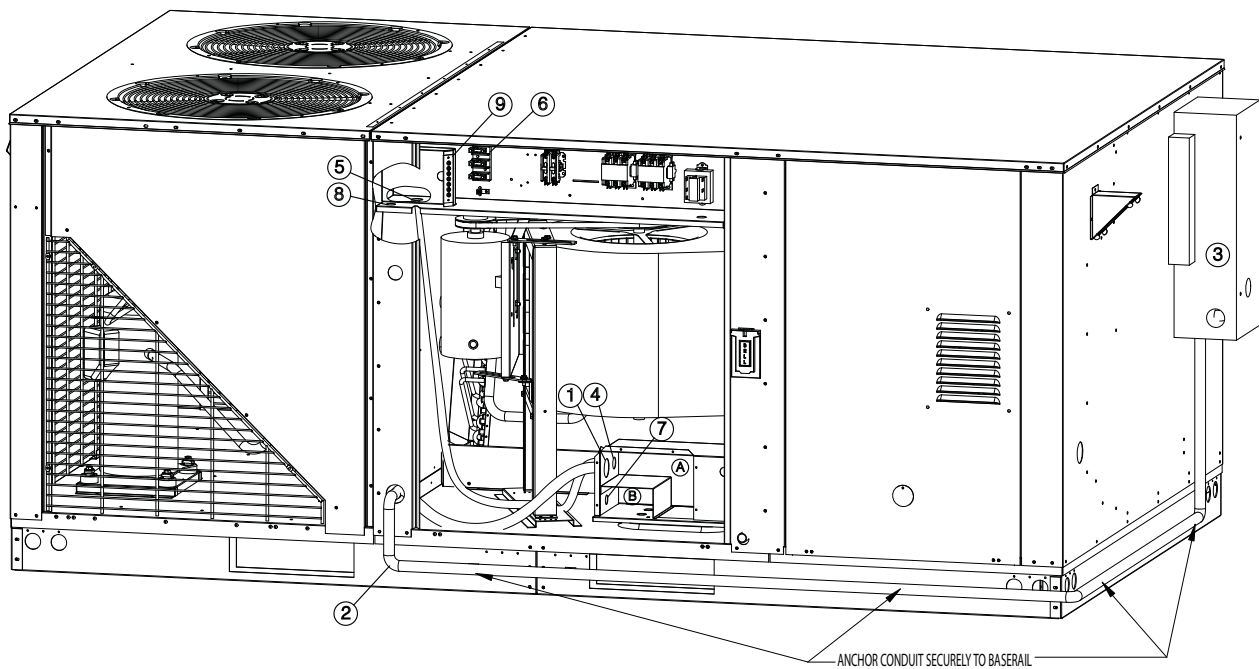

Figure 18. Wire Routing Diagram
17. Bring the high voltage, unit power supply wiring (and if applicable, 110V convenience outlet supply wiring) into the right side of the bottom power entry box for connections. Route wires from the bottom power entry box, to the unit disconnect and then to the unit HV inputs. Refer to the unit and other installed accessory kits installation instructions for details. (See Figure 18)
18. Bring the Low voltage, unit control wiring into the bottom power entry box, under the low voltage divider. Make connections in the bottom power entry box, low voltage area – or – route wires/cable through the star bushings installed in step 9 to the unit low voltage connections through the base of the unit control panel. (See Figure 18)